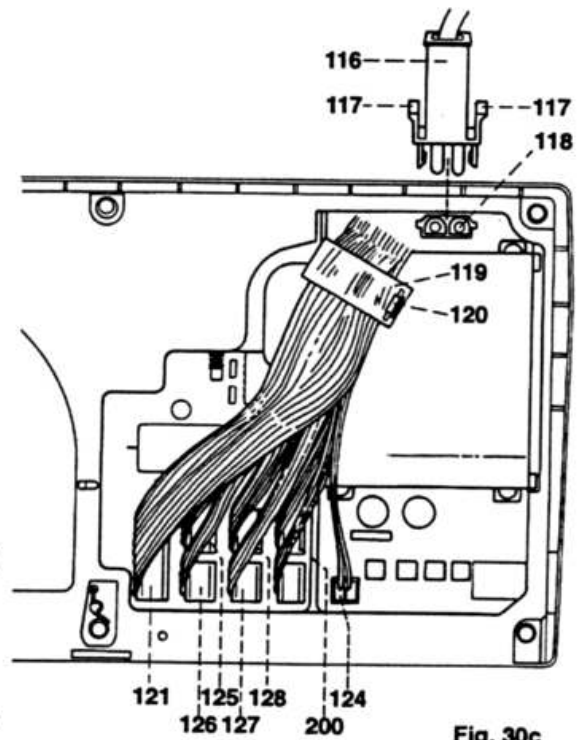

Fig. 30c
- Disconnect plugs 122 of the eight flat wires from the circuit board (fig. 30c).